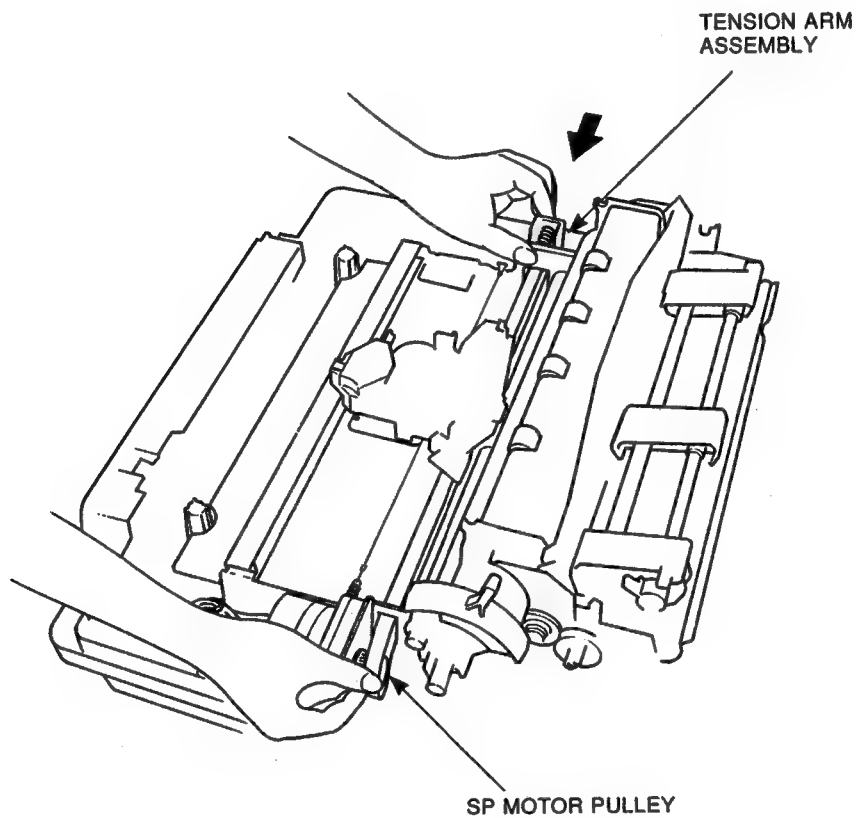

Figure 3-23 Timing Belt
1. Press the tension arm assembly to the left side frame and remove the timing belt from the SP motor pulley (see Figure 3-23).